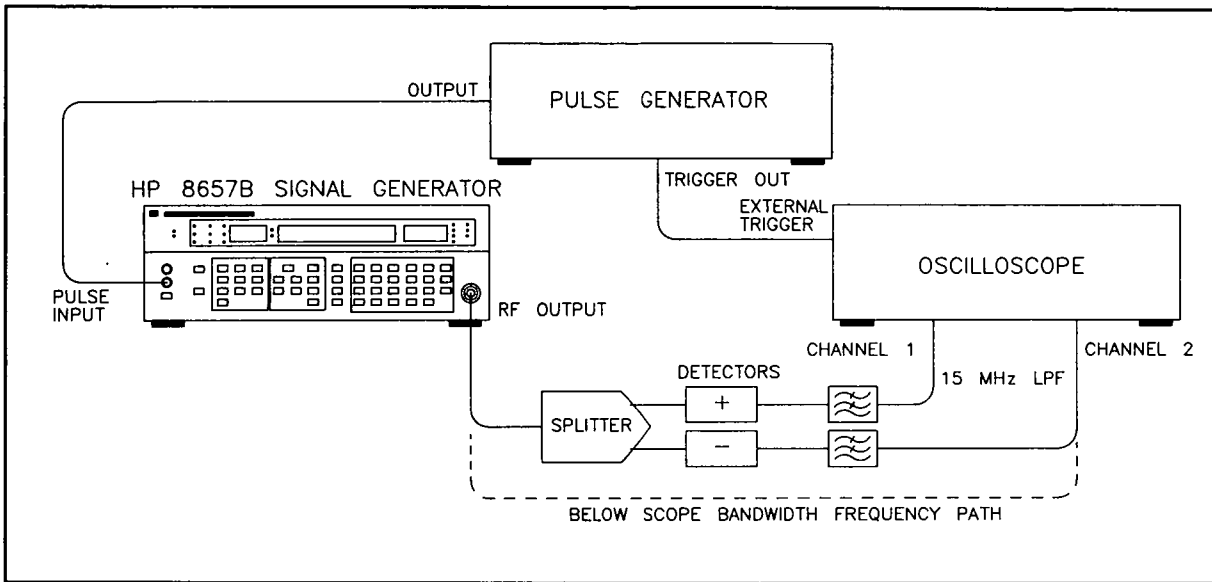
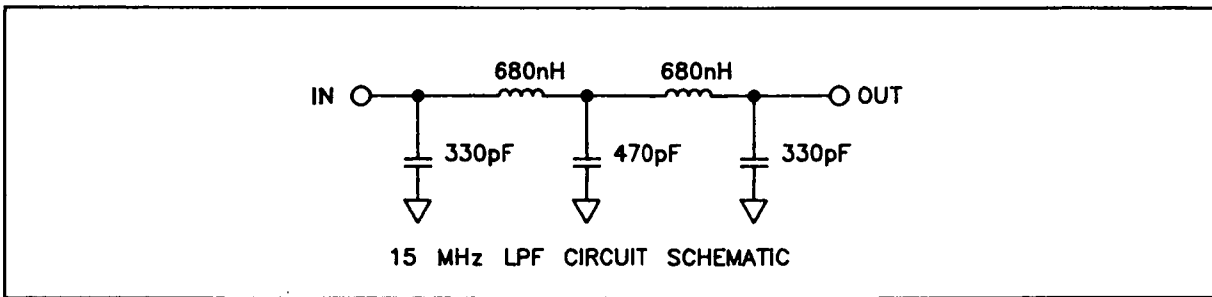

Figure 4-12. Rise/Fall Time Test Setup with Peak Detectors
Figure 4-13. Schematic for 15 MHz Low Pass Filters
- 15 MHz Low Pass Filter (2 Required) (See Figure 4-13)
35. Connect the equipment as shown in Figure 4-12. Low Pass Filters can be constructed using the schematic in Figure 4-13.